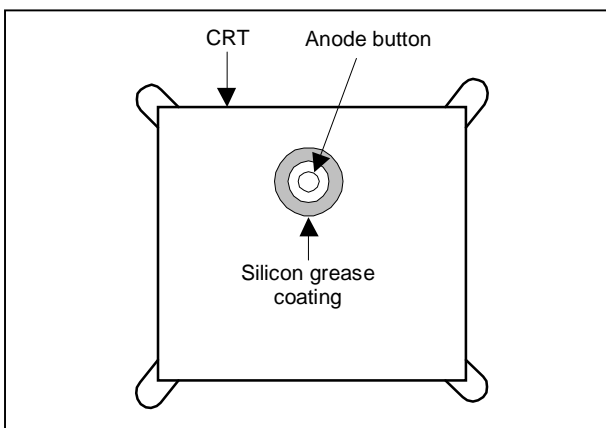
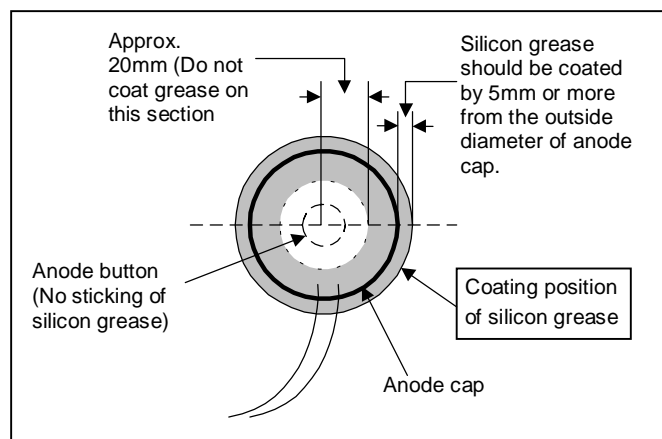

Fig. 6
Fig. 7
- Subsequent to replacement of the CRT and HV transformer or repair of the anode cap, etc. by dismounting them, be sure to coat silicon grease for electrical insulation as shown in Fig.6. Wipe around the anode button with clean and dry cloth. (Fig.6) Coat silicon grease on the section around the anode button. At this time, take care so that any silicon greases dose not sticks to the anode button. (Fig.7)